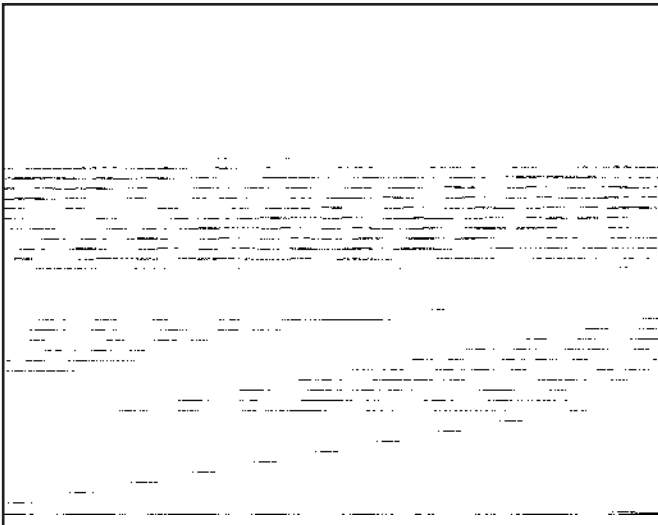

Figure 7. Air Eliminating System
- B. A FLOW CONTROL VALVE (See figure 7) will prevent gravity circulation and usually is required when tankless heater is installed.
- A. DIAPHRAGM - TYPE COMPRESSION TANKS are used to control system pressure in an AIR ELIMINATING SYSTEM: an automatic air vent is used to REMOVE air from the system water. See figure 7.
- D. PUMP LOCATION - Locating low-head pump(s) on return to boiler is acceptable for smaller boiler sizes in residences of one or two stories. (See figure 7). The pump location shown in figure 8 is required in large, multi-story building installations, especially when high-head pumps are used.